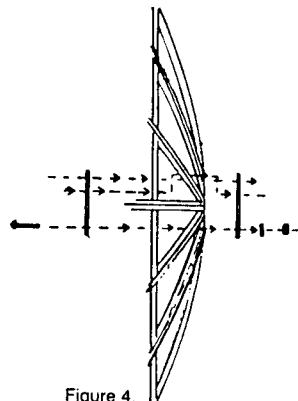

Figure 4.
**STEP 4** You may stand the assembled reflector on edge for easy access to the center. Attach the center hub plates to the antenna by inserting four M8X50 carriage bolts through the front plate, between the ribs, and through the rear plate on the back side of the reflector. Be sure to use M8 washers on the rear hub plate. See Figure 4. **SECURELY TIGHTEN THE CARRIAGE BOLTS WITH A WRENCH.**